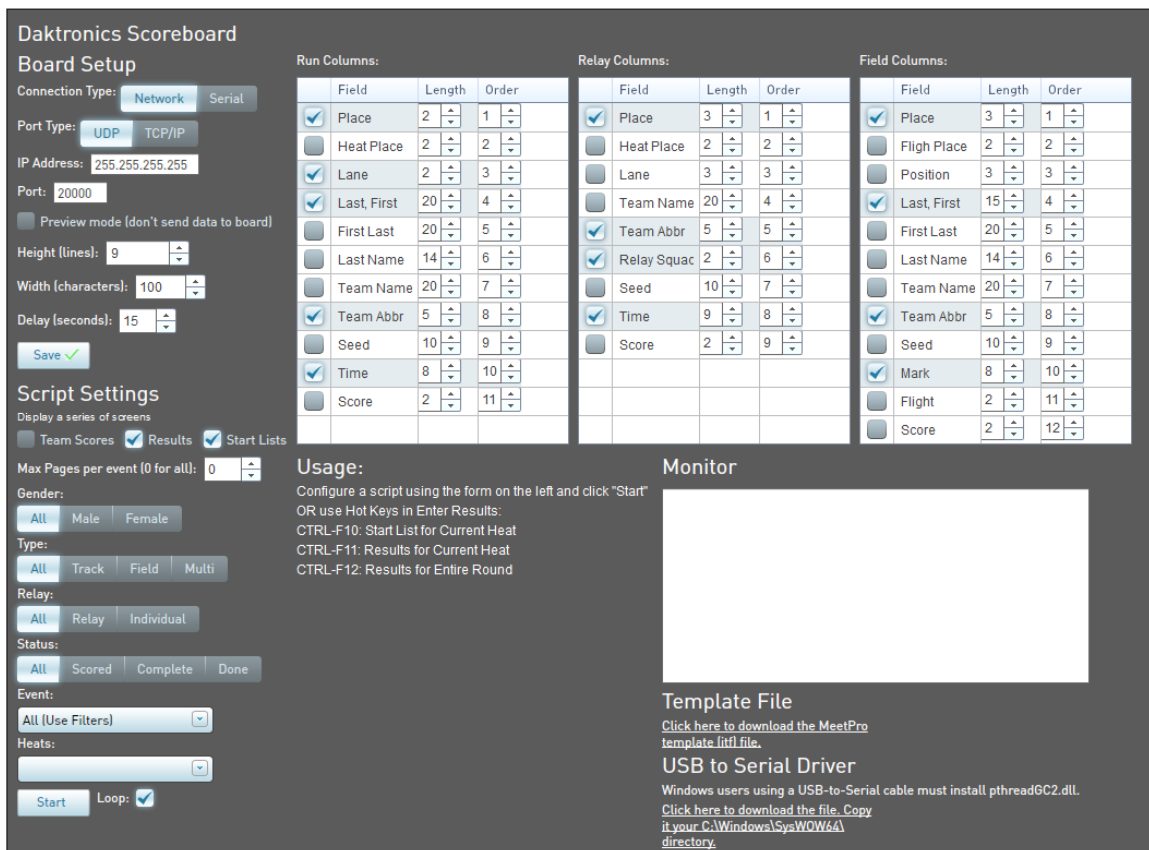

Figure 48: MeetPro Scoreboard Setup
3. In the *Daktronics Scoreboard Board Setup* window, use the following settings (refer also to **Figure 48**):
4. Refer to **Figure 48** for typical information to display for the *Run*, *Relay*, and *Field* data columns. Adjust the *Length* of the data fields to fit the display as needed.